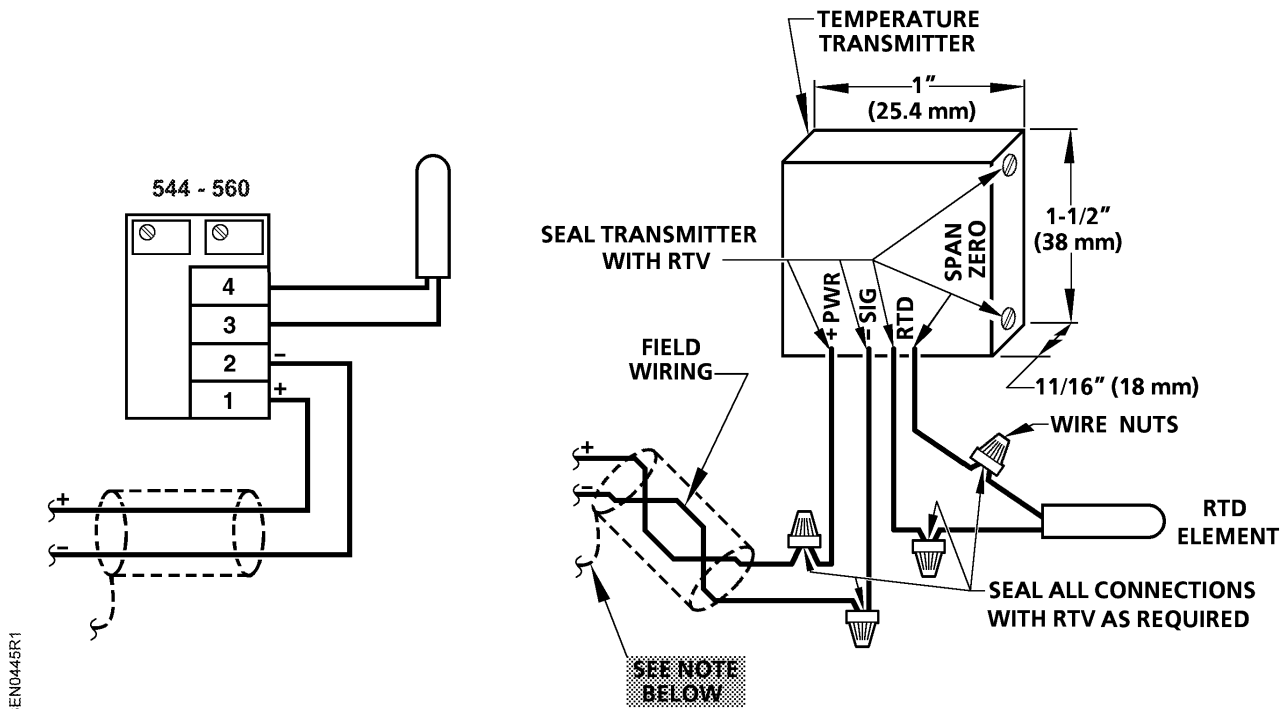

Figure 2. Wiring Connections for 4 to 20 mA Sensors.
6. Connect the field wiring to the transmitter with the positive (+) 26V supply lead to the PWR wire and negative signal lead to the SIG wire. See Figure 2 and Table 1.
8. Connect the field wiring at the controller as shown in the wiring diagram. See Figure 2 and Table 1.